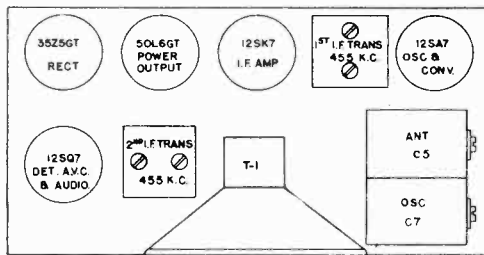

Fig. 1. Tube and Trimmer Location
- The location of all trimmers is shown in Fig. 1.
Close the gang condenser by rotating the tuning control. Slide the pointer along the cord until it lines up with the first dial marking on the left. Now rotate the tuning control until the pointer is over the 1500 KC dial mark. Apply a 1500 KC signal to the receiver by means of a standard loop antenna. Align the oscillator trimmer (C-7) to bring in the signal and peak the signal by adjusting the antenna trimmer (C-5). (See Fig. 1 for trimmer locations.)